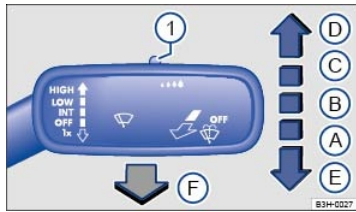

Fig. 93 Operating the front windshield wipers.
Move the lever to the desired position ⇒ Fig. 93 ⇒ ① :
- ① **OFF** Wiper switched off.
- ② **INT** Intermittent wiping for the windshield. Rain sensor active (if equipped).
- ③ **LOW** Slow wiper speed.
- ④ **HIGH** Fast wiper speed.
- ⑤ **1x** One-tap wiping – brief wiping. Hold the lever down longer to wipe more often.
- ⑥  Pull the lever toward the steering wheel to activate the windshield washers, then release.
- ⑦  Switch for adjusting the windshield wiper interval settings (vehicles without a rain sensor) or the sensitivity of the rain sensor (vehicles with a rain sensor).